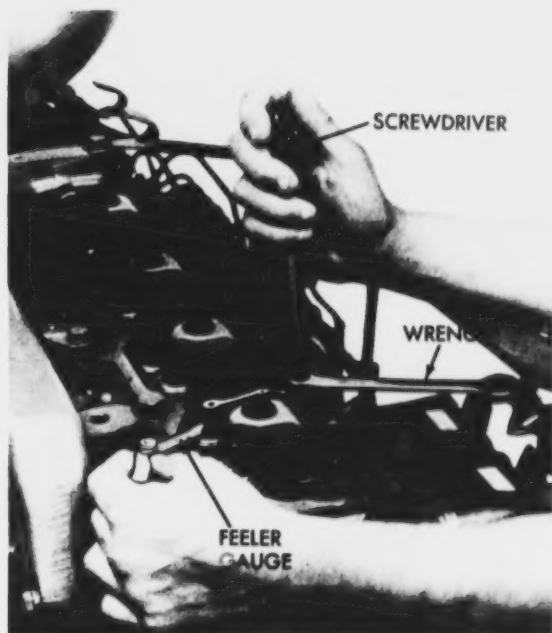

Fig. 31—Adjusting Valve Clearance
Insert the gauge between the valve stem and the rocker arm of both valves (Fig. 31). If the two valves require different clearances, be certain to identify which valve is the exhaust and which is the intake. Your operator's manual or technical manual will show this.
- Loosen the lock nuts on the two rocker arm adjusting screws (Fig. 31).